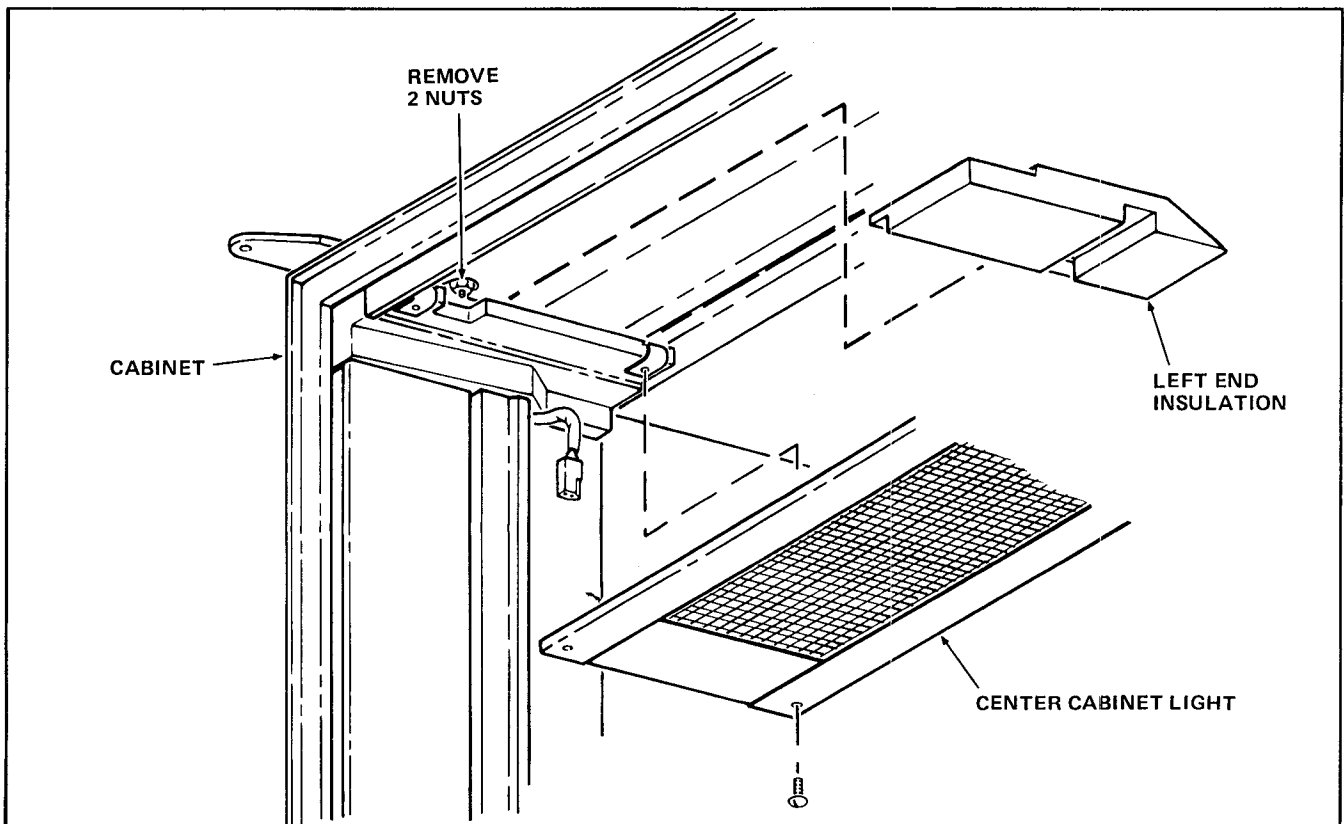

FIGURE 3
2. Remove the Cabinet Center Light and the Left End Insulation Block for access to the two Nuts which attach the Upper Door Hinge Assembly. See Figure 3.